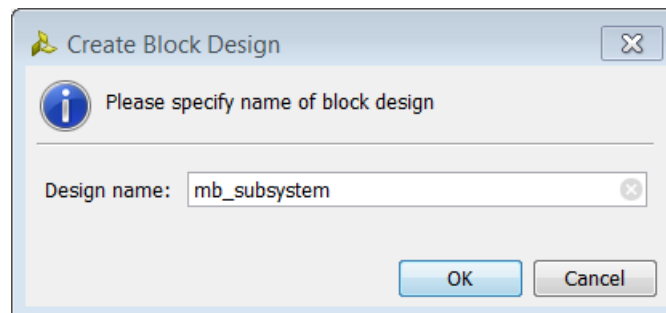

Figure 80: Name Block Design
2. Specify the IP subsystem design name, and click **OK** (Figure 80).